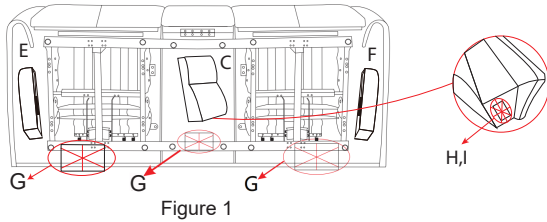

Figure 1
Detach the Console Back (C), Transformers (G), Wings (E F) and Hardware (H I) from the bottom of the Seat (D). (See Figure 1.)